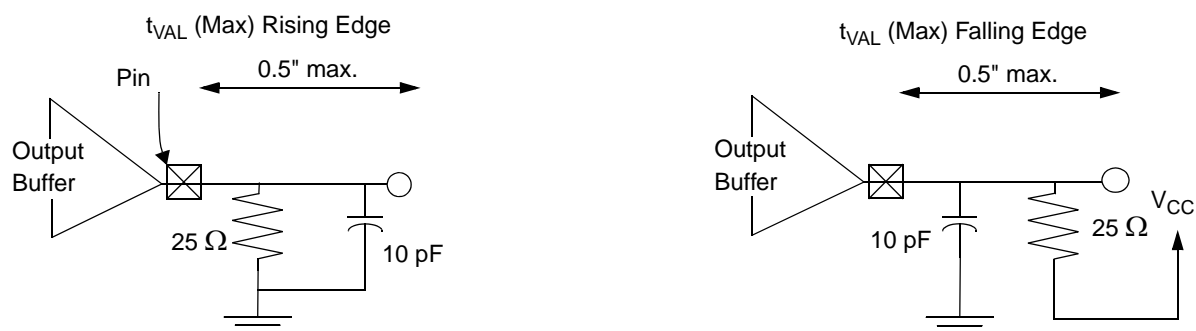

Figure 8-16. Load Circuits for PCI Maximum Time Measurements
2. Minimum times are evaluated with same load used for slew rate measurement (as shown in note 3 of Table); maximum times are evaluated with the load circuits shown in Figure 8-16, for high-going and low-going edges respectively.